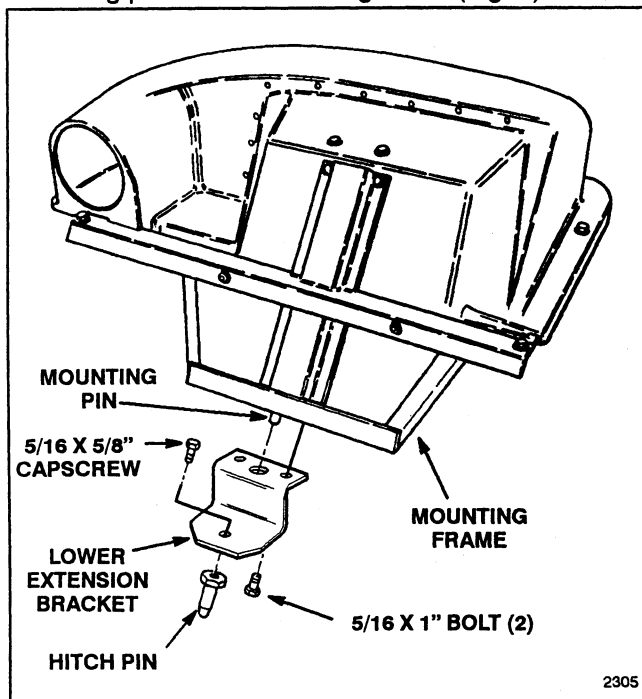

Figure 2
2. Slide the lower extension bracket onto the mounting pin on the mounting frame (Fig. 2).
3. Bolt the lower extension bracket to the mounting frame using (2) 5/16 x 1" bolts and locknuts supplied.
4. Secure hitch pin to lower extension bracket in hole shown in Figure 2 with a 5/16 x 5/8" capscrew.